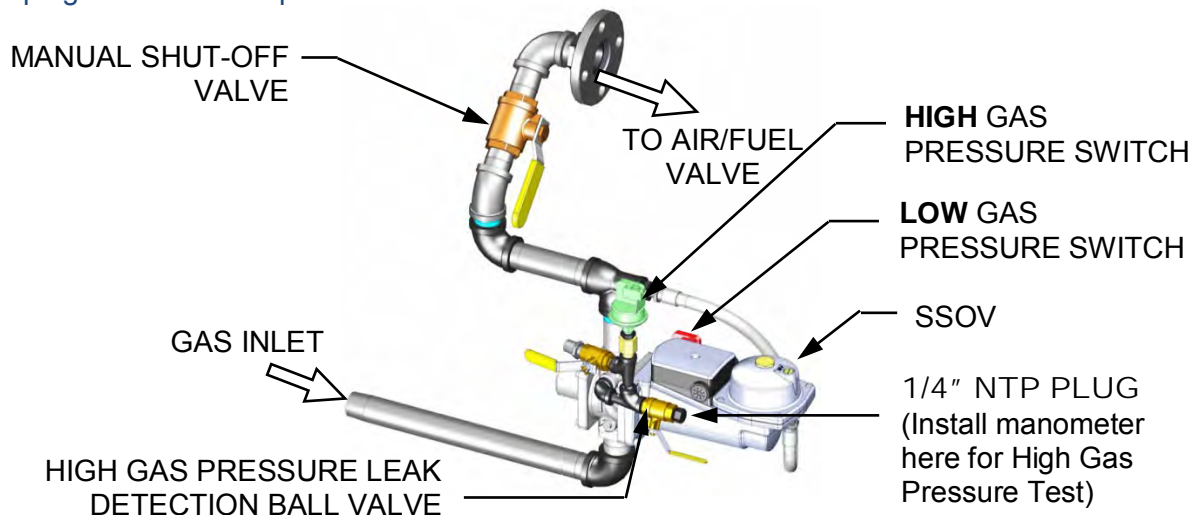

Figure 6-1B: High Gas Pressure Test – NATURAL GAS Gas Train Shown
To simulate a high gas pressure fault, refer to Figure 6-1B and perform the following steps:
1. Remove the 1/4" plug from the leak detection ball valve at the **High Gas Pressure** switch, shown in Figure 6-1B.